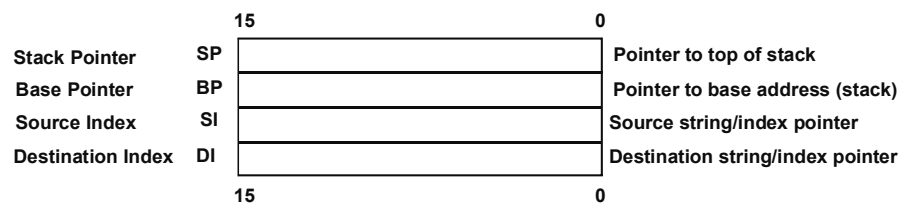

Fig. 3.9 SP, Base Pointer, SI and DI
The base pointer, on the other hand, is a pointer to the base address and is used in the based addressing mode. Both the Source Index (SI) and the Destination Index (DI) are registers that are useful for providing the offset during string operations. The SI is used for the source strings and the DI is used for the destination. The same is illustrated in the Figure 3.9.